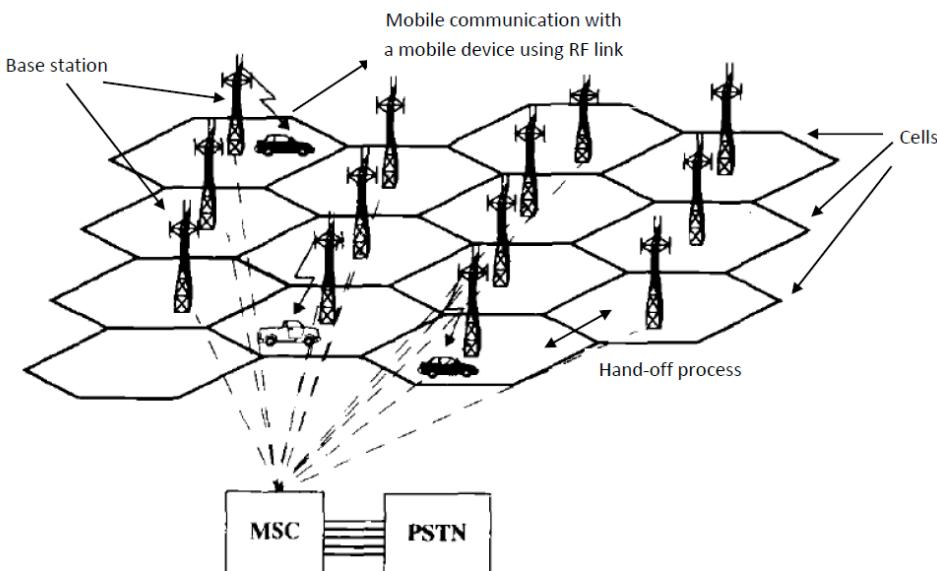

Figure 5.2: Cellular communication system
Figure 5.2 shows the block diagram of a cellular communication system in which the hexagon shaped cells are shown. The automobile (mobile user with the mobile device) shown in the figure wirelessly communicate when it moves from one cell to another cell. The base stations of the respective cell connect the mobile devices using Radio Frequency (RF) link. The base stations are controlled by Mobile switching centres (MSC) which are connected to the existing telephone system referred to as Public Switched Telephone Network (PSTN). Base station is provided with a call/data communication handling processor.